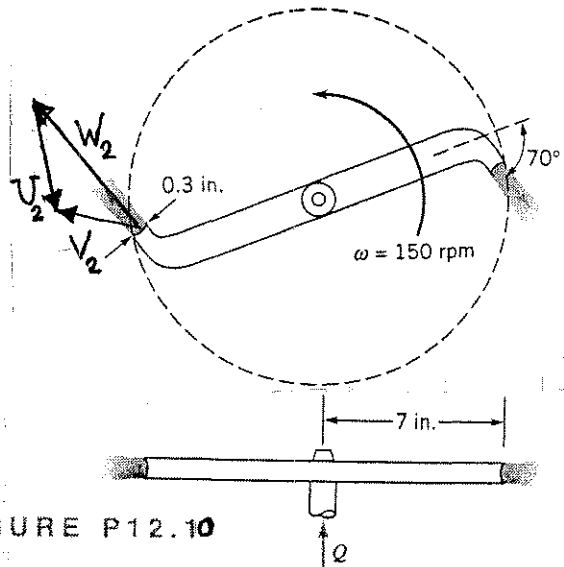

FIGURE P12.10
12.12 Water flows axially up the shaft and out through the two sprinkler arms as sketched in Fig. P12.10 and as shown in Video V12.2. With the help of the moment-of-momentum equation explain why only at a threshold amount of water flow, the sprinkler arms begin to rotate. What happens when the flowrate increases above this threshold amount? If the exit nozzle could be varied, what would happen for a set flowrate above the threshold amount, when the angle is increased to 90° ? Decreased to 0° ?